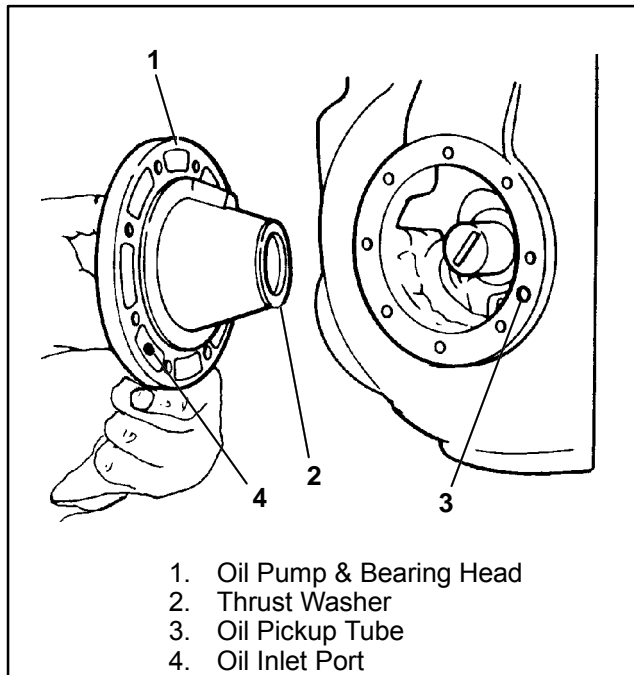

Figure 3-5. Oil Pump and Bearing Head Assembly
Remove eight capscrews and remove the oil pump bearing head assembly, gasket and thrust washer. (See Figure 3-5.)
a. Install the pump end thrust washer on the two dowel pins located on the bearing head. (See Figure 3-5.)